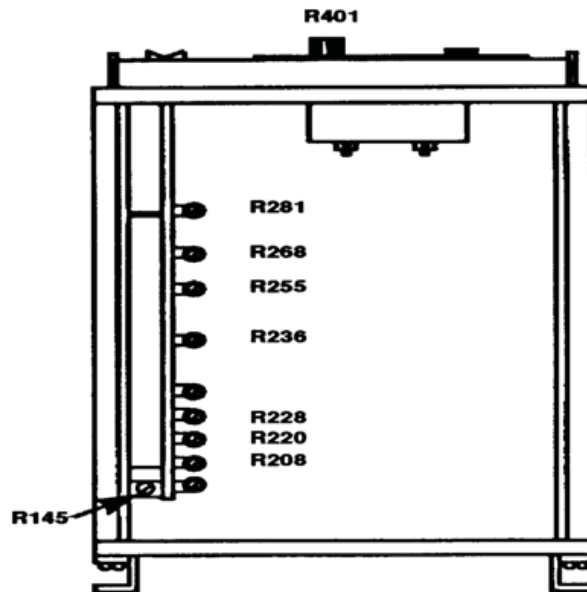

Figure 7 Boonton, Model 92C
(1) Adjust calibrator controls for an output of 3.0 V ac and adjust R208 (fig. 7) for a TI indication between 2.88 and 3.12 mV (ideal 3.0 mV) (R).
(2) Adjust calibrator controls for an output of 10.0 V ac and adjust R220 (fig. 7) for a TI indication between 9.6 and 10.4 mV (ideal 10.0 mV) (R).
(3) Adjust calibrator controls for an output of 30.0 mV ac and adjust R228 (fig. 7) for a TI indication between 28.8 and 31.2 mV (ideal 30 mV) (R).
(4) Adjust calibrator controls for an output of 100 mV ac and adjust R236 (fig. 7) for a TI indication between 96 and 104 mV (ideal 100 mV) (R).
(5) Adjust calibrator controls for an output of 0.3 V ac and adjust R255 (fig. 7) for a TI indication between 291 and 309 mV (ideal 300 mV) (R).
(6) Adjust calibrator controls for an output of 1.0 V ac and adjust R268 (fig. 7) for a TI indication between 970 and 1030 mV (ideal 1000 mV) (R).
(7) Adjust calibrator controls for an output of 3.0 V ac and adjust R281 (fig. 7) for a TI indication between 2910 and 3090 mV (ideal 3000 mV) (R).
a. Performance Check. Connect multimeter to -15 V dc test point located on main amplifier board near R145 (fig. 7). If multimeter does not indicate between 14.9 and - 15.1 V dc, perform **b** below.
b. Adjustments. Adjust R145 (fig. 7) for 15.0 V dc multimeter indication (R).